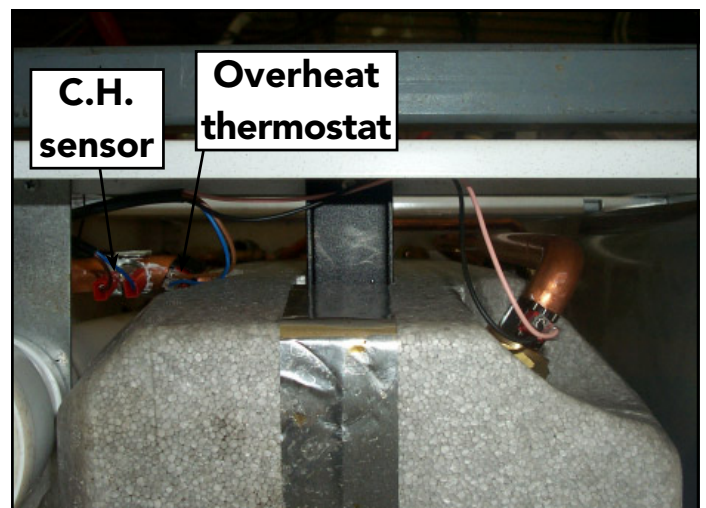

Fig. 28
- Identify the location of thermostat from fig. 28